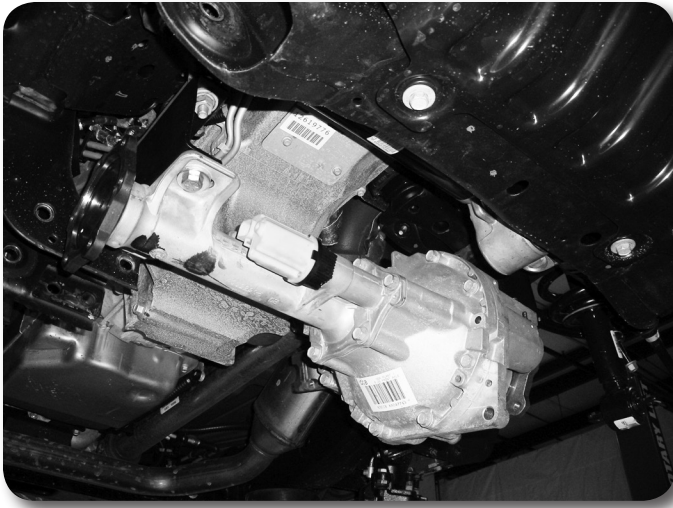

Figure 19
29. Using an appropriate jack, install the differential in the vehicle by attaching it to the new driver's and passenger's differential brackets. Fasten the differential to the brackets with 1/2" x 1-3/4" bolts, nuts and washers. Use two 1/2" SAE washers on each bolt for the driver's side. Use one 1/2" SAE washer and one extra large 1/2" washer on the passenger's side. The extra large washer will go against the differential housing flange with the large slots **Figures 19**. Torque the 1/2" hardware to 65 ft-lbs. Pull the differential forward as the passenger's side bolts are tightened.